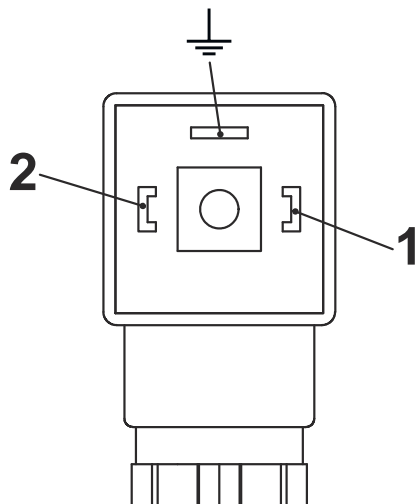
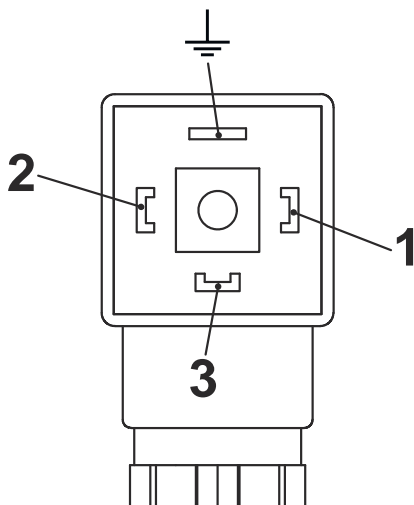

Fig. 26: Pin assignment, plug socket, Normally Open Contact (Form 30x70)
Fig. 27: Pin assignment, plug socket, Change-Over-Contact (Form 30x70)
6. ➤ Make the connections as shown in the connecting diagram (Fig. 26 und Fig. 27)